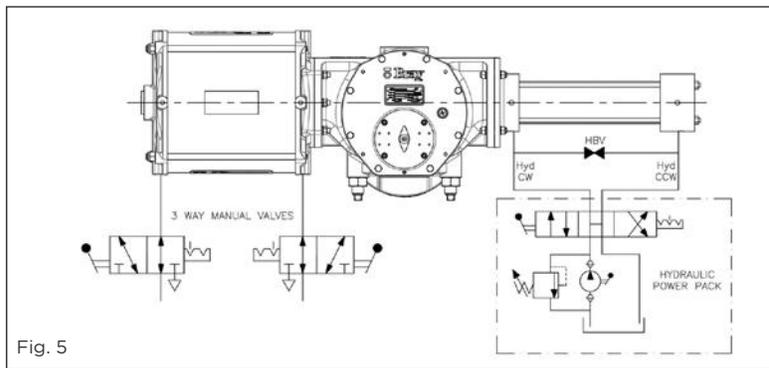

Fig. 5
5. Install the 3-way valves, rated for 150 psi (10.3 bar) working pressure, on the pneumatic cylinder ports (Refer to Fig. 5) and turn them to venting position.
7. Tube the ports of the hydraulic cylinder to the direction control valve's ports, on the hydraulic hand pump unit. (Refer to Fig. 5) Fill the reservoir with clean hydraulic fluid, till about 1-2" from the top. Fit back the filler-breather cap.